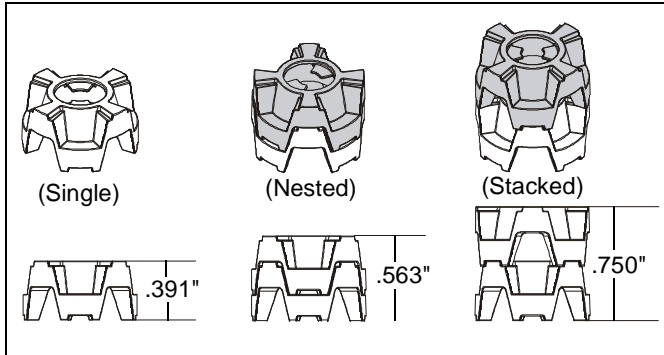

Figure 5
**NOTE:** The nesting spacers (MA) may be used separately, or put two together in different configurations to create different size spacers. (See Figure 5)